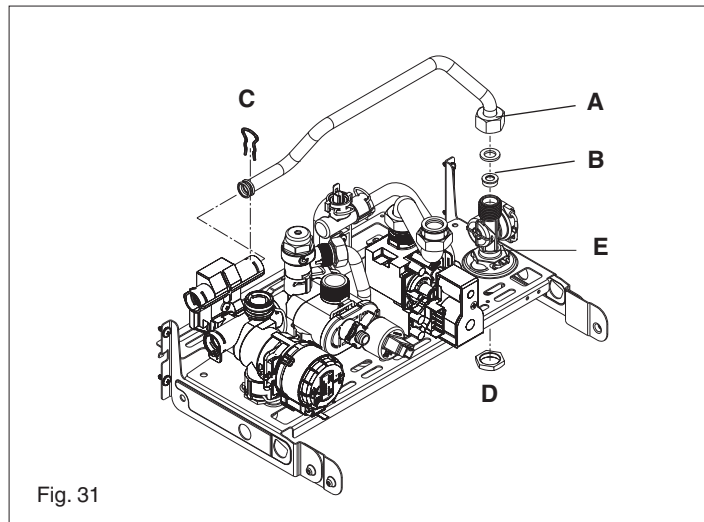

Fig. 31
6.17 FLOW RESTRICTOR (fig. 31)
6.18 DHW FLOW METER (fig. 31)